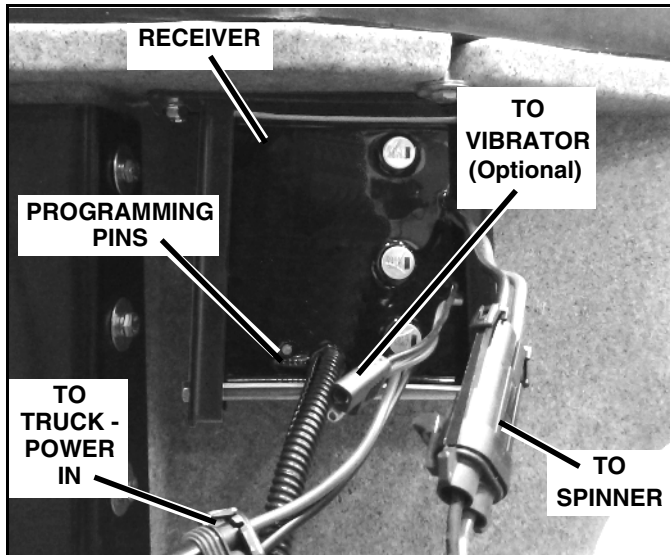

Figure 1-8
3. Secure the receiver by driving (2) 5/16" self-drilling screws thru the holes in the bracket and into the hopper.
4. Slide the receiver into the bracket with the 6-Pin in circuit programming pins located on the bottom. Secure the receiver with (1) 1/4" x 6" hex head cap screw and (1) 1/4" lock nut (See Figure 1-8).
5. Plug the spreader spinner motor harness and vibrator harness (optional) into the mating plugs on the receiver (See Figure 1-8).